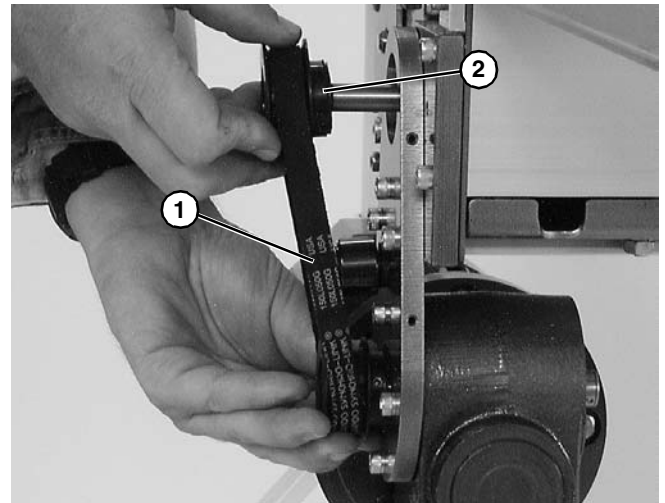

Figure 14
3. Remove timing belt (**Figure 14, item 1**).
If timing belt does not slide over pulley flange, loosen driven pulley set screws (Figure 14, item 2) and remove pulley with belt (Figure 14, item 1). For re-installation, see steps 6 and 7 on page 9.